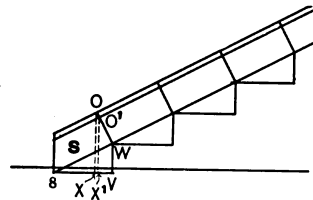

Fig. 7.—Development of Wall Springing Course.
These are obtained by taking the width from the plan, as $f i$, and the heights from the development in Fig. 7, as $W O$ for $j m$ in the enlarged section Y, Fig. 16, and $W O'$ for $i f$, the letters on the pattern corresponding with the letters on plan. The pattern for X is Q on the elevation. After the molds are applied work the top by drafts across the ends, Fig. 9; then connect 6 9 by a line drawn with a flexible edge and work a draft to it. Finish by working it off in drafts that radiate to the center, holding the large blade plumb on the convex side. It would be well to mark on the plan pattern several radiating lines. Next trammel the width of the top, as $h m$ of Fig. 16, which will give the line to cut the coursing joint, which can be reduced to its shape by using a bevel taken from Fig. 16 at $m h f$. After this has been done cut the ashlar marked U of Fig. 9 and the soffit last.
For the intermediate stones the pattern of the plan $m h f n s$ will give the size, and it would be well to mark every line on it. The stone next to S, in Fig. 7, will give an idea of the shape.
to the right, so as to avoid a confusion of lines. Fig. 7 is part of the stretchout of the convex springer course and is necessary, so that the course can be divided into several lengths, in order to break joints with the other courses. On account of the numerous lines in plan in a piece of work of this kind, lay out every course separate in order to obtain the patterns.
Referring to Fig. 7, drop lines from O, O', as O X and O X'; transfer the distances 8 X and 8 X' to the plan, as 8 f, g h; from h draw a line parallel to i j, and connect h f with a straight line and f k with a curved one; then 8 f k j l will be the plan pattern. Fig. 8 is an enlarged plan of the stone, which gives the length and breadth of the piece required, the height being obtained from the highest point of S in Fig. 7. Work the bottom of Fig. 9 true, then apply the pattern, Fig. 8. Next work joints 1 2 and 3 4, as shown by X X, then the joint Y. There are three ways of cutting the joint.
1. Set the bevel to O W V of Fig. 7 and cut the angle.